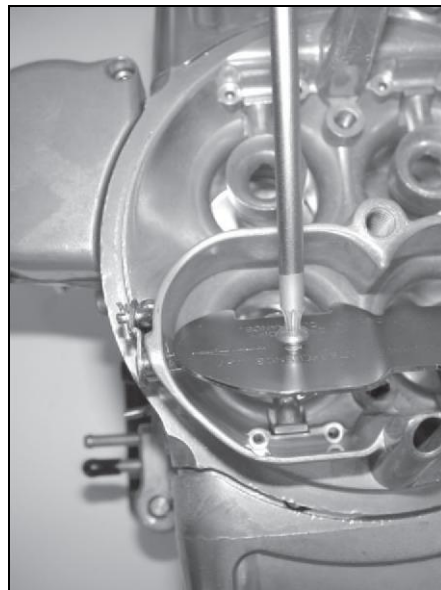

Figure 8
7. Use the two Torx® head screws to secure the choke flap to the choke butterfly shaft (Fig. 8). The flap has instructions stamped on its upper side. Make sure you can read the instructions and that the arrow points towards the choke rod. NOTE: It is extremely important that the choke flap is centered so it moves freely and does not bind. You may need to remove the flap to deburr the edges if it binds and reinstall. Once the choke flap is centered and moving freely, remove the Torx® head screws one at a time, place a drop of Loctite® 271 on them and reinstall. Wipe any excess Loctite® off the screw heads or shafts before proceeding.